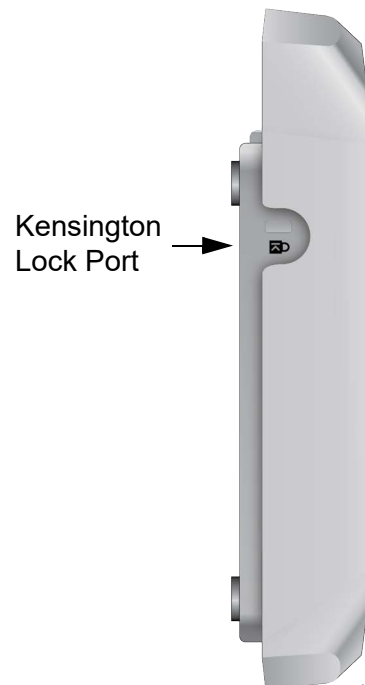

Figure 29. Kensington Lock Port Location
1. Follow the instructions provided with the vendor's anti-theft device for the installation. See Figure 29 for the Kensington lock port location.